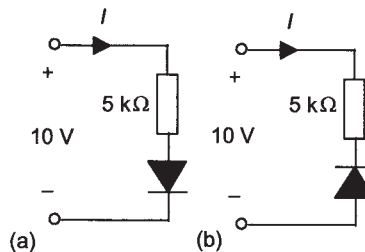

Figure 13.13 Problem 1
- 1 Determine the current I in the circuits of Figure 13.13 when the voltage is 10 V assuming the diode can be modelled by (i) a switch, (ii) a constant voltage drop of 0.7 V.